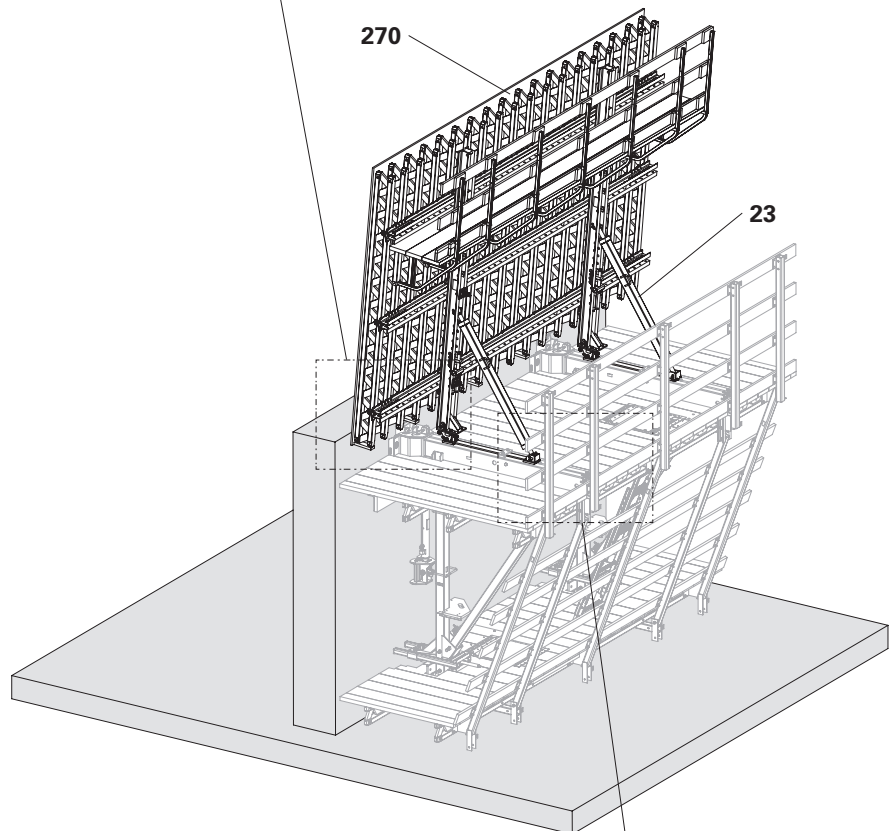

Fig. C5.01
(Fig. C5.01 + C5.01a + C5.01b)
1. Hold the spirit level against the form-lining (270) and align the formwork vertically by turning the Thrust Spindle ACS (23). (Fig. C5.01)